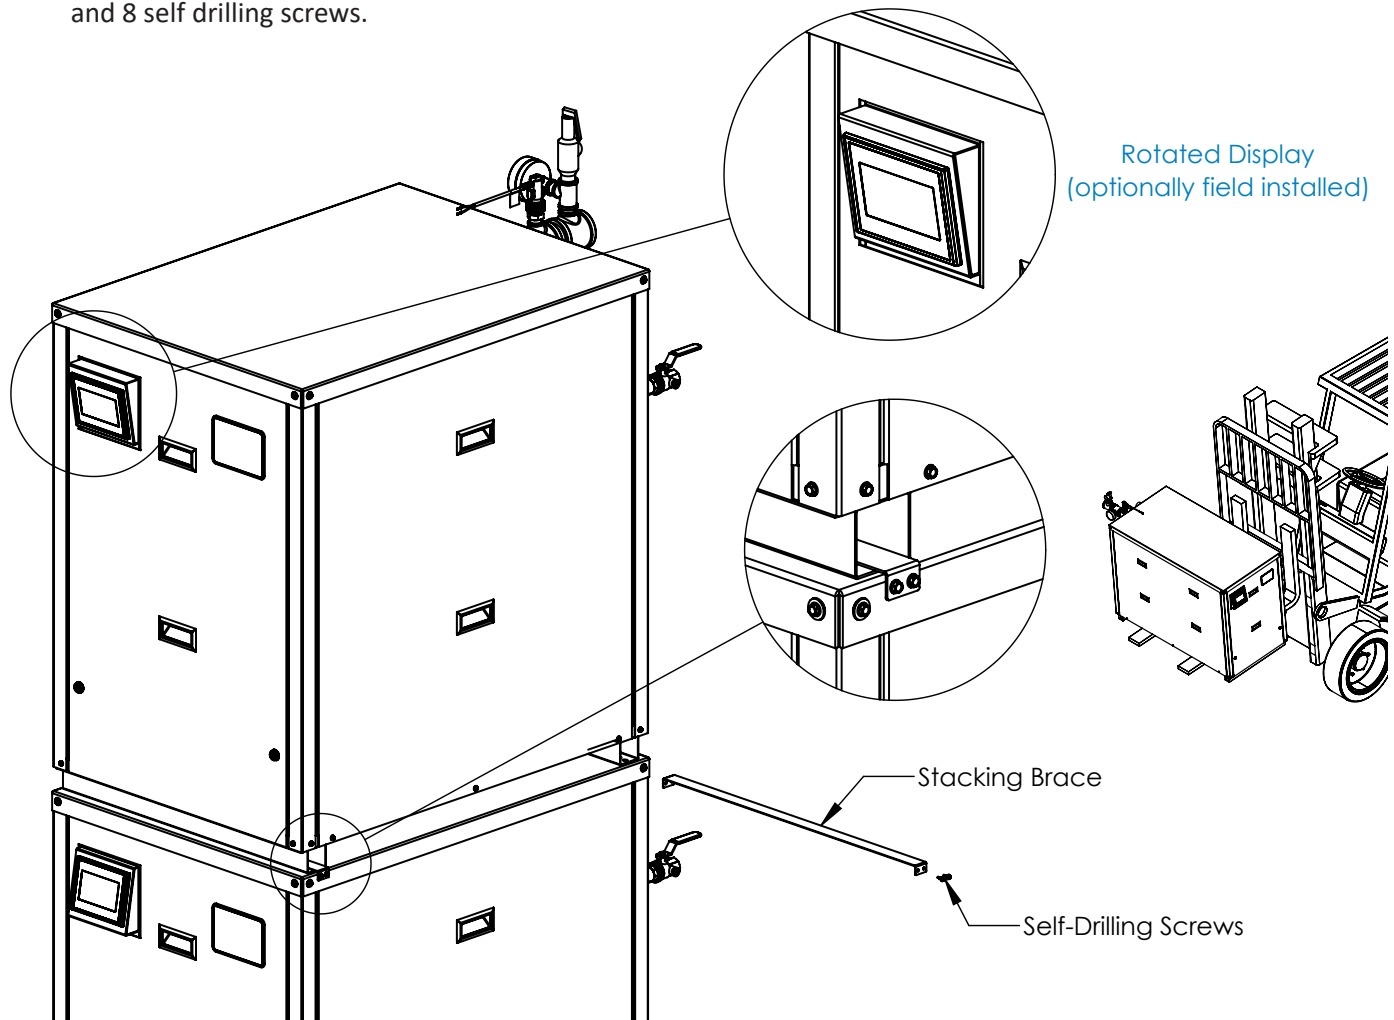

Figure 5: CTD 400-1000L Stacking Brackets and Display Rotation
- b. Use the included screws to secure the brace as shown in Figure 5.